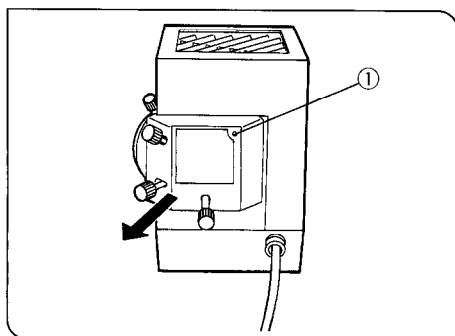

Fig. 5
(Figs. 5, 6, 7, 8, 9, 10, 11)
1. Remove the burner socket clamping screw ① using the Allen screwdriver provided with the microscope.
2. Remove the socket from the lamp housing as indicated by the arrow. (Fig. 5)
4. Tighten the socket clamping screw ① with the Allen screwdriver. (Fig. 5)
- ★ A click is heard, when the clamping screw ① is tightened. This sound indicates that the safety interlock switch is functioning properly.